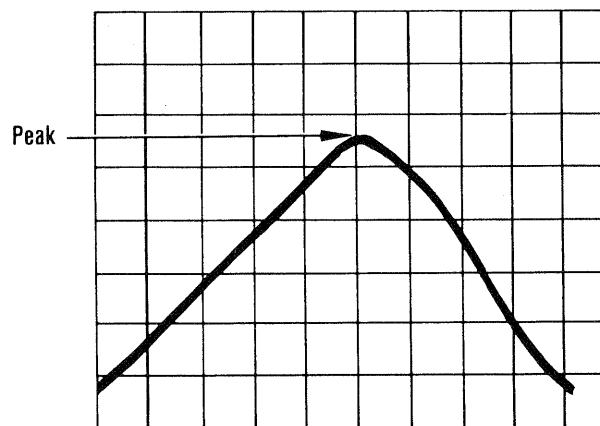

Figure 5-22. Optimum YTM Response
- c. YTM tuning is adjusted by centering the YTM response peak on the oscilloscope display (see Figure 5-22). Adjustments are made at the highest and lowest frequency in each band. In addition, bands 3 and 4 are adjusted at "breakpoints" to correct for tracking deviation at the higher frequencies.